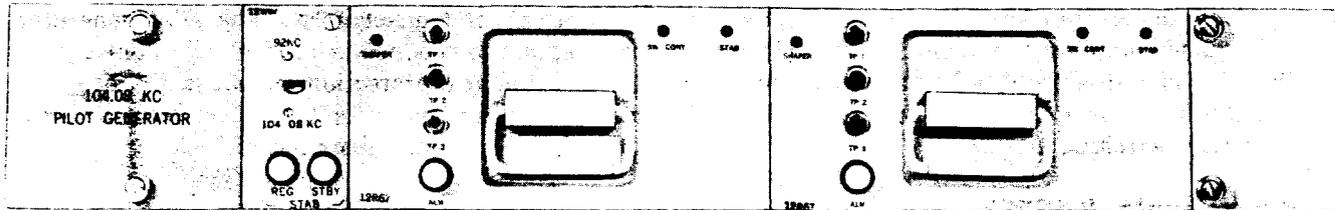
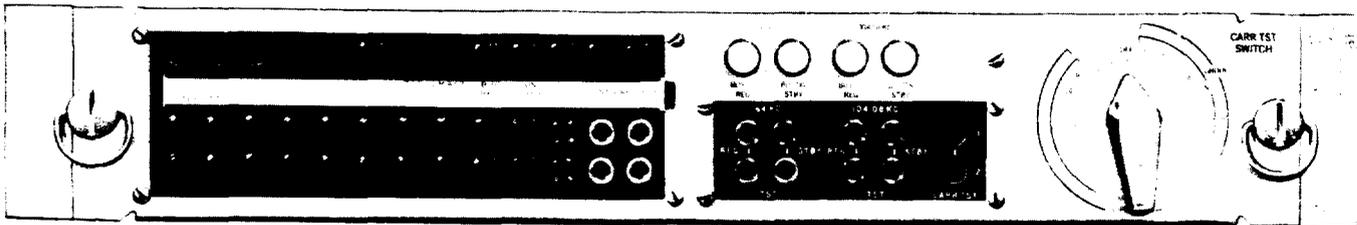

Fig. 2—104.08-kHz Pilot Supply J68857S List 1
Fig. 3—Carrier Test Panel J68857J
**Pilot Supply J68857S:** ♦This supply is used in LMX-2 applications and the operation is identical to the J68857W supply except for the 204-kHz and 100-kHz input signals. The input signals for a List 1 supply (Fig. 2) are obtained from the J68857D or J68857N intermediate frequency supply. The test jacks for the supply are located in carrier test panel J68857J (Fig. 3). The input signals for the J68857S List 3 supply (Fig. 4) are obtained from 104.08-kHz secondary distribution unit J68857V. This supply provides a higher output level from a hybrid-type primary distribution bus, a test jack for the primary bus, and test jacks for the 104.08-kHz stabilizer circuits located on the pilot supply panel.♦
Caution: Simultaneous removal of both pilot generator modules (Fig. 2) will cause interruption of the pilot signal.